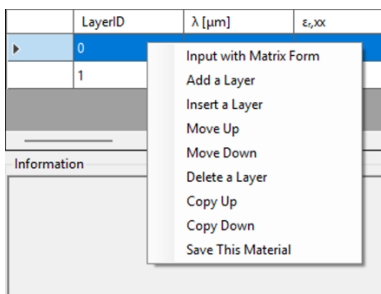

Figure 13. Appeared context menu after right-clicking on a cell
1. Right-click on a cell in the target λ row to open the context menu as shown in Figure 13.